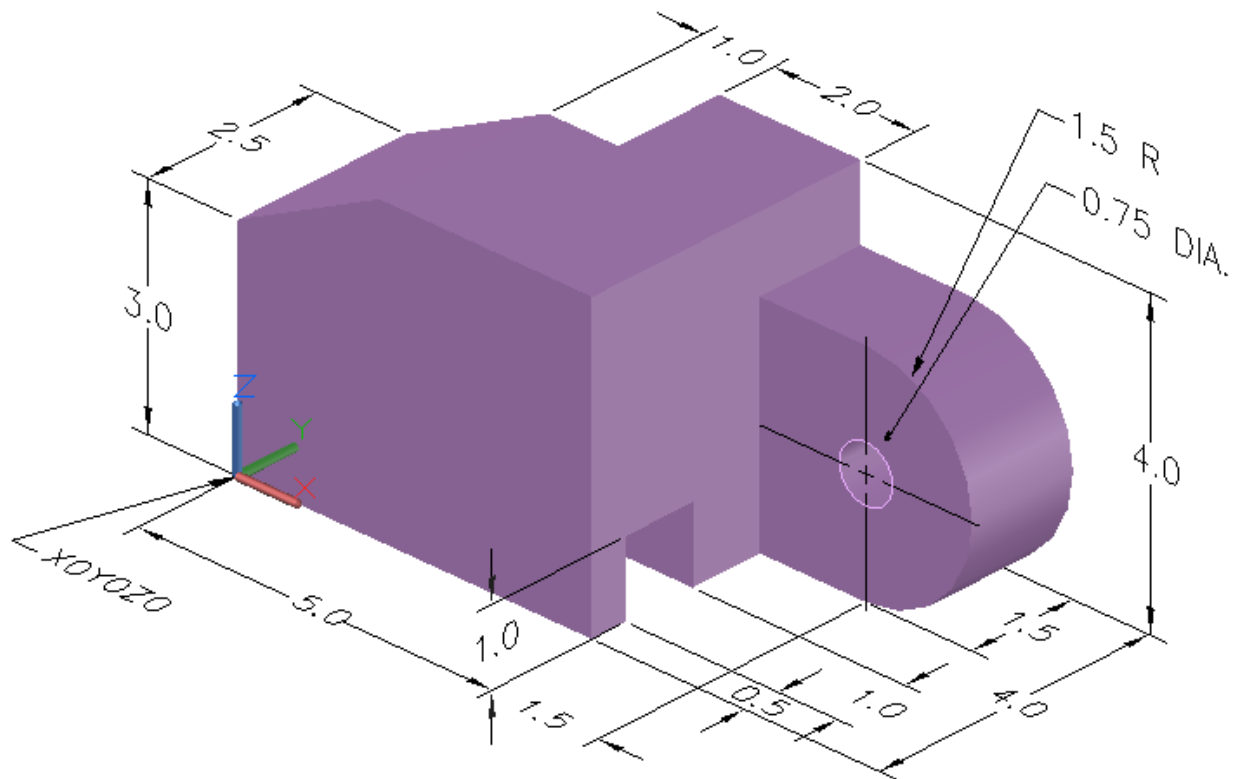

Figure Step 4A
Step 4 Draw a wireframe model of the object. (Figure Step 4A and 4B)